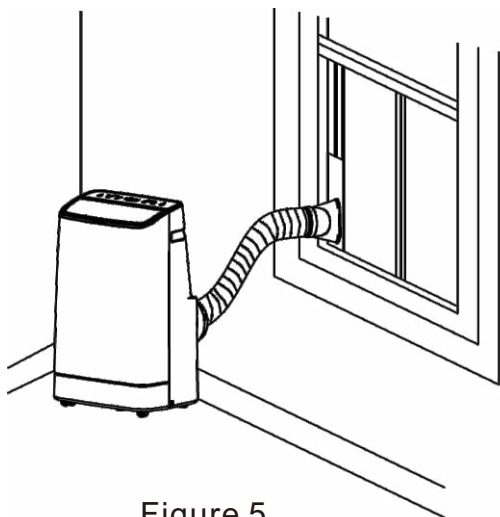
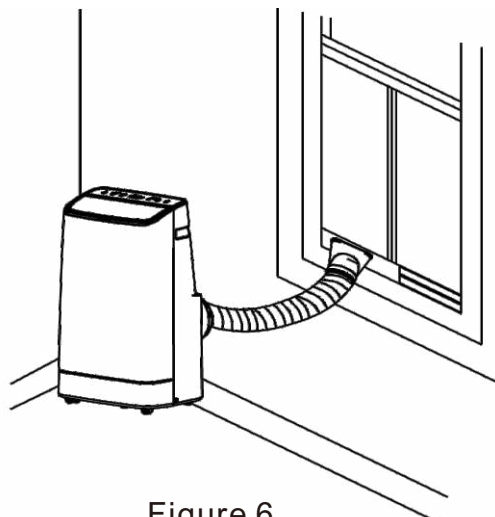

Figure 5
Figure 6
- 3) Elongate the exhaust pipe and snap the flat end of the exhaust pipe joints into the hole of the window sealing plate assembly (as shown in Fig.5 and Fig.6) .